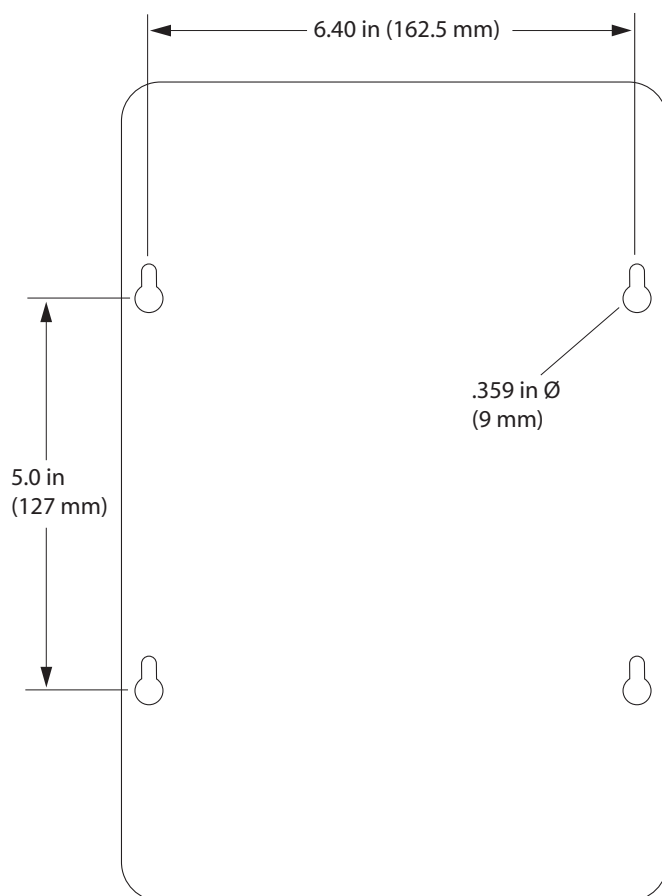

Figure 8—Base Plate with Mounting Keyholes
SAMSys recommends that the MP9320 V2.8 be mounted on a horizontal surface. However, if vertical surface installation is required, refer to the following sections for the appropriate mounting. As shown in Figure 8, keyhole slots are provided for easy installation and removal.
1. Refer to Figure 8, and mark the location of the mounting screws. Do not install the anchors into the mortar joint.
1. Refer to Figure 8, and mark the location of the mounting screws.